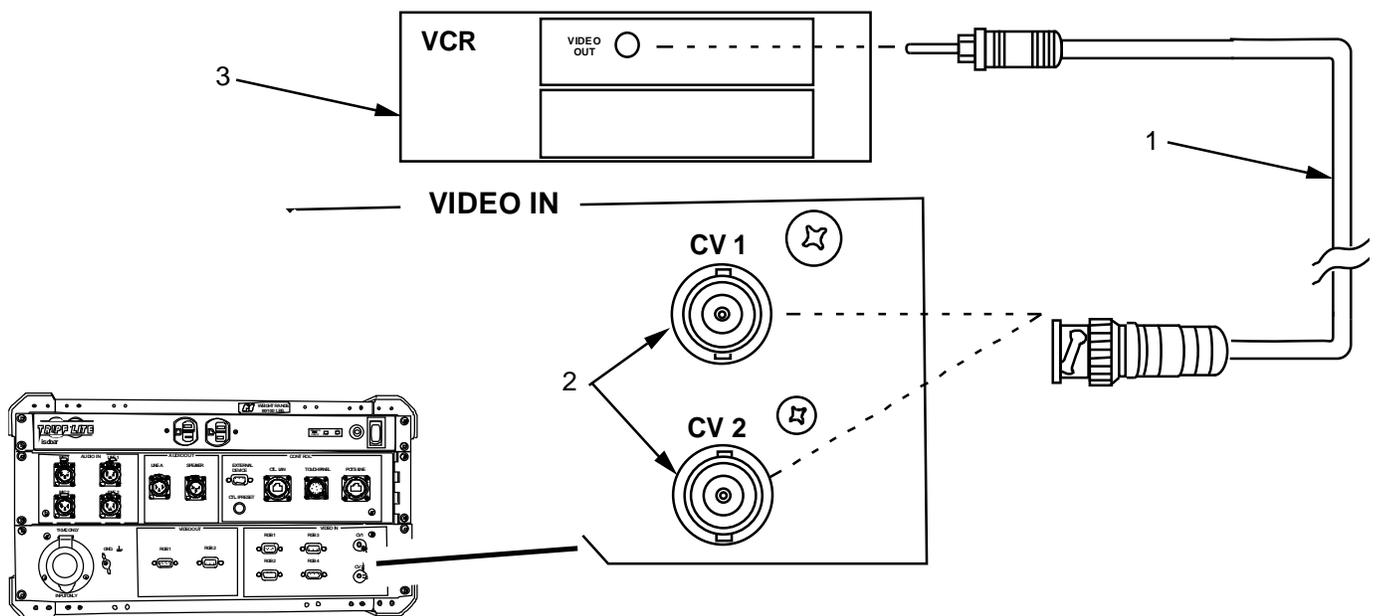

Figure 7. Connect Video Input Equipment to AVCS (MINI) System.
1. Identify the type of composite video input device to be used and position the device (Figure 7, Item 3) in desired location.
2. Connect the cable (Figure 7, Item 1) to the video output on the VCR. If using a device with an RCA jack, use the BNC to RCA adaptor cable located in the ancillary equipment case or an appropriate adaptor.
4. Remove the dust covers from either composite input connector (Figure 7, Item 2) located on the VIDEO IN panel of the AVCS (MINI).